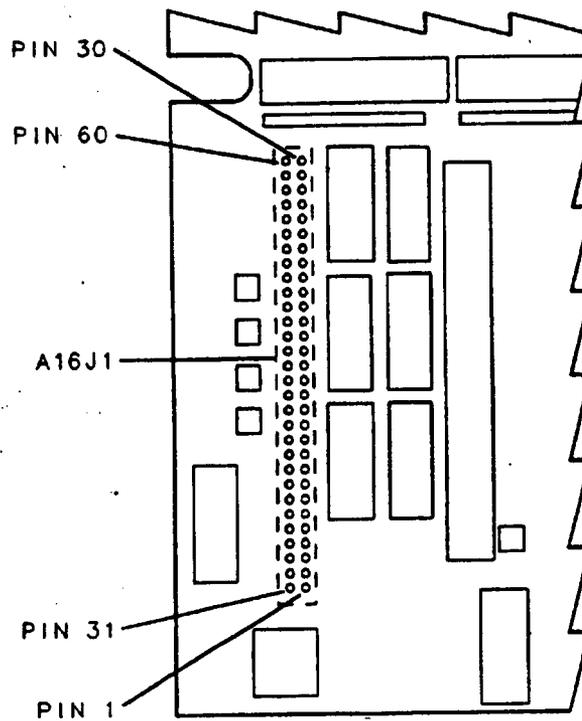

Figure 6-4. A16J1 Connector-Pin Orientation
1. Check for the +5 V TTL HPWRUP signal at pin 54 on the A16J1. The A16J1 connector is on the trace side of the A16 assembly. Refer to Figure 6-4 for the numbering order of A16J1 connector-pins accessible from the component side of the A16 assembly.